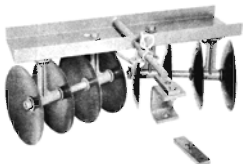

FIGURE 2
7. Connect the pivot rods to the inner gangs and adjust them with the lock nuts so the right and left gangs are set at the same angle. See Figure 2. The disc harrow is now ready to be hitched to the tractor.